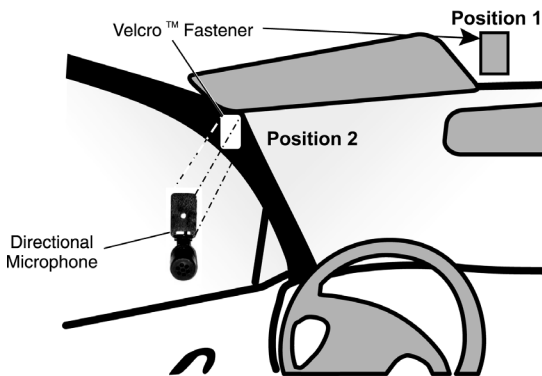

Figure 11. Installing the Microphone
attachment location for the least noise pick-up is the center of the vehicle above the front windshield (position 1 in Figure 11). If this location is not feasible or is too close to the speaker for good echo canceling performance, the microphone can be placed on the vehicle's A pillar between the front windshield and the driver's door (position 2 in Figure 11).
To install the directional microphone, see Figure 11.
1. Attach the microphone to **position 1 or position 2** in Figure 11 using a Velcro™ fastener. Verify that the microphone is facing the **driver's lips at a distance of approximately 40cm and out of any possible air flow.**